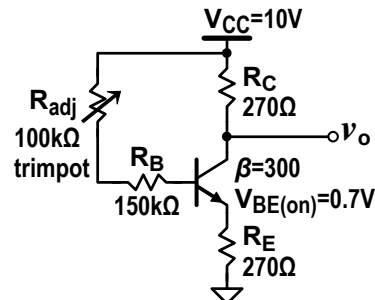

Figure 1. Emitter-stabilized bias circuit
- For the circuit given in Figure 1
### 1. Build the circuit given in Figure 1.